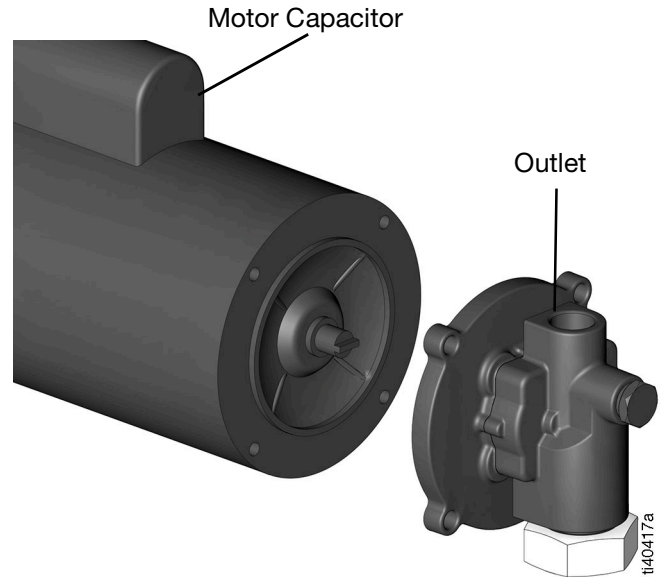

FIG. 7
2. The pump outlet should face up and the motor capacitor and the outlet should both be on top (FIG. 7).